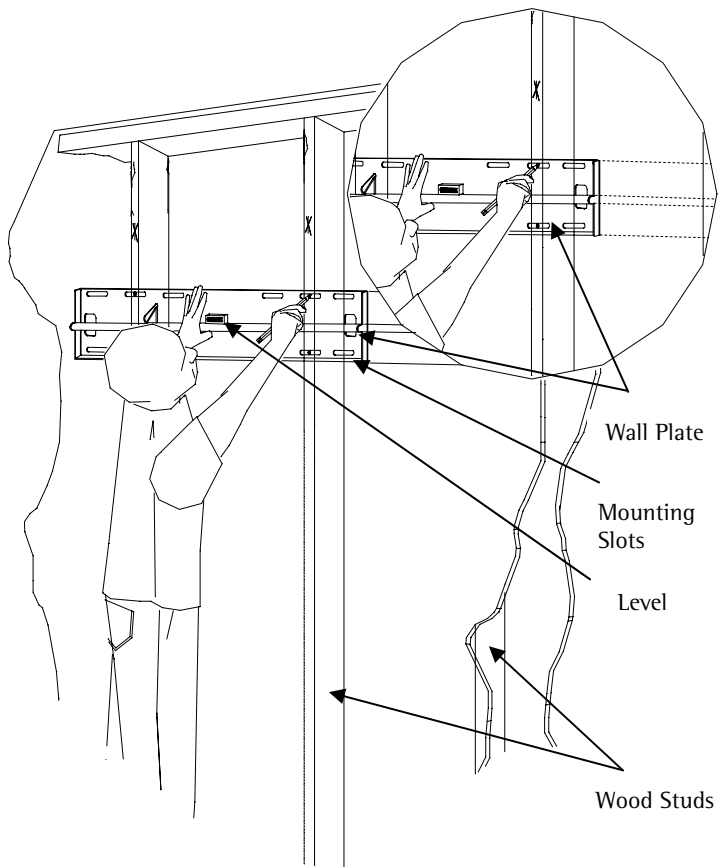

Figure 11
3. To connect the two wall plates, lay them on a flat surface, end to end. Make sure that the holes line up (Figure 11).
4. Insert two (2) M8 x 16mm Hex Head bolts through the two holes and secure with two (2) M8 Hex nuts (Figure 11).
5. Place the bottom portion of the wall plate to the reference line and mark the eight (8) lag bolt mounting points through the wall plate slots on the wall.
6. Level the wall plate with the reference arrow pointing up to the ceiling (Figure 11).